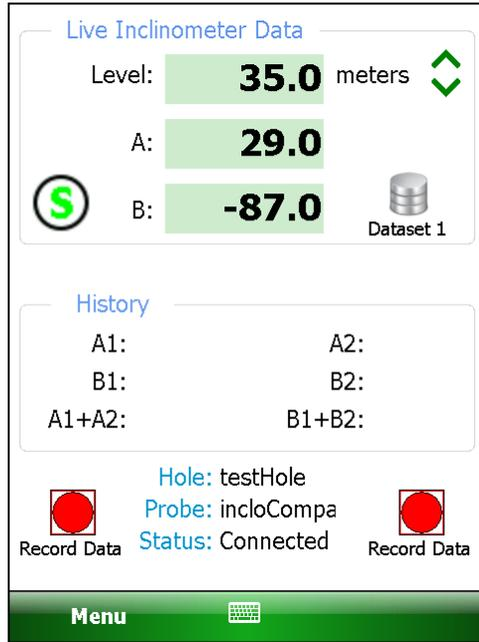

Figure 44 - Stable Indication
Visual Only When this stability indication is selected an icon is displayed on the Live Readings Screen, indicating whether the reading is stable or not (see Figures 44 and 45).
Visual/Audible When this stability indication is selected, in addition to the icon described above, an audible indication is played indicating the reading's stability or instability (See Figures 44 and 42, as well as sections 3.3.5.3 and 3.3.5.4).
When taking live readings, if the difference between two subsequent readings of the A **and** B channels are less than or equal to the “Stability Filter” then the reading will be deemed stable and, if enabled, the “Stability Indication” icon (see Figures 44 and 45) will be set accordingly.
If the “Stable Indication” (see section 3.3.5.1) selection is set to “Visual/Audible”, this parameter will be enabled and a drop-down list will display the choices of “sounds” that the HHD can make when a stable reading is achieved in the “Live Readings” screen (see Figure 44).
5. Approximately 2 seconds after the cable marker/ferrule is locked in the cable grips, (or cable hold), the system will determine that the readings are again stable and respond by setting the stability icon to its stable state  and playing the selected “Stable” sound (see Figure 44). Immediately following the stable sound, the current readings are stored, the record “beep” is heard and the level is decremented by the pre-selected interval.